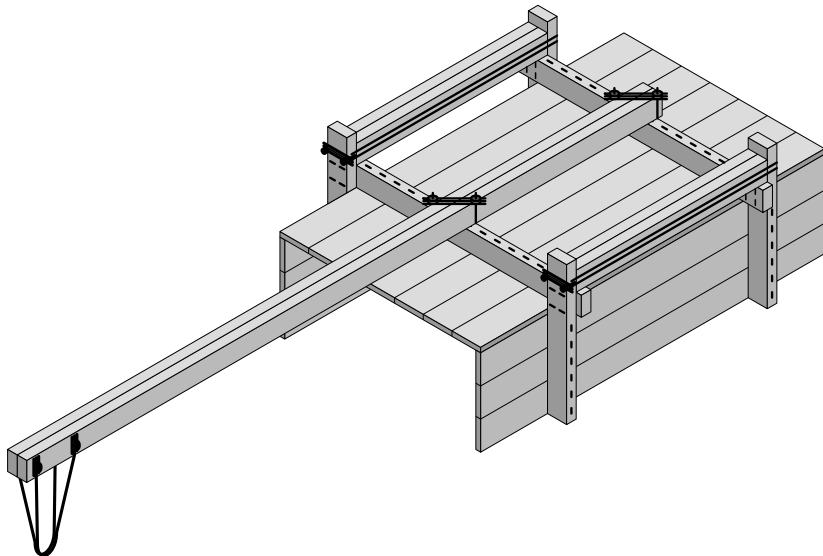

Figure 7: method of fixing draught pole using U-bolts.
- 5) Now you need to fix the draught pole. The best way is to use a big U-bolt to fix it to each U-frame. Do not drill holes in the U-frames or the draught pole for these bolts but arrange them as shown in Figure 7. If you cannot get U-